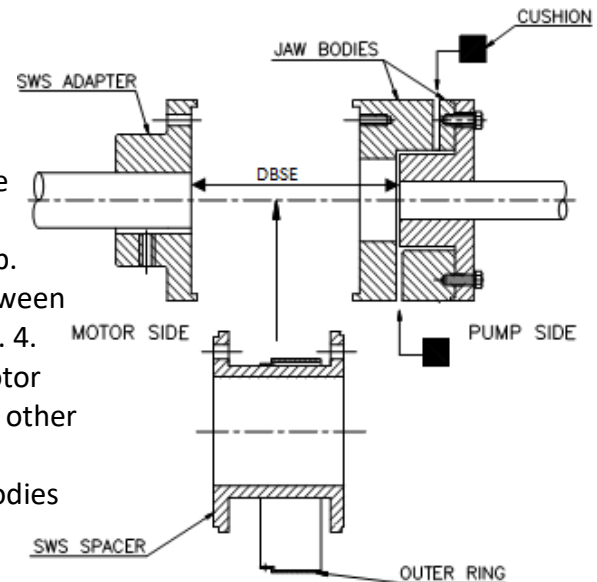

Fig 4. ASSEMBLY OF SWS COUPLING
- Slide another jaw body over pump side hub. Insert the spacer along with outer ring between motor side hub & jaw body as shown in fig. 4.